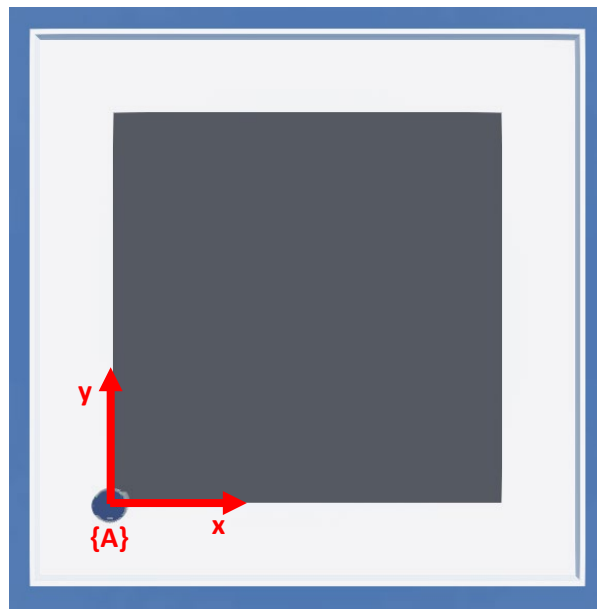

Figure 1 : Reference frame
- Modify the `controller_get_pose()` to fill the pose structure with the GPS positions and heading. Use the reference frame detailed in the Figure 1 to fill the `pose_t` structure.
A file `lab07.csv` has been created inside the controller folder. This file contains the logs of the simulation. Run MATLAB code `plot_main.m` (only part A) to plot the values of the accelerometer. What is the frame of the accelerometer? Which indexes of the accelerometer array (`acc`) correspond to the x-, y- and z-axis of the frame A (see Figure 1) ?